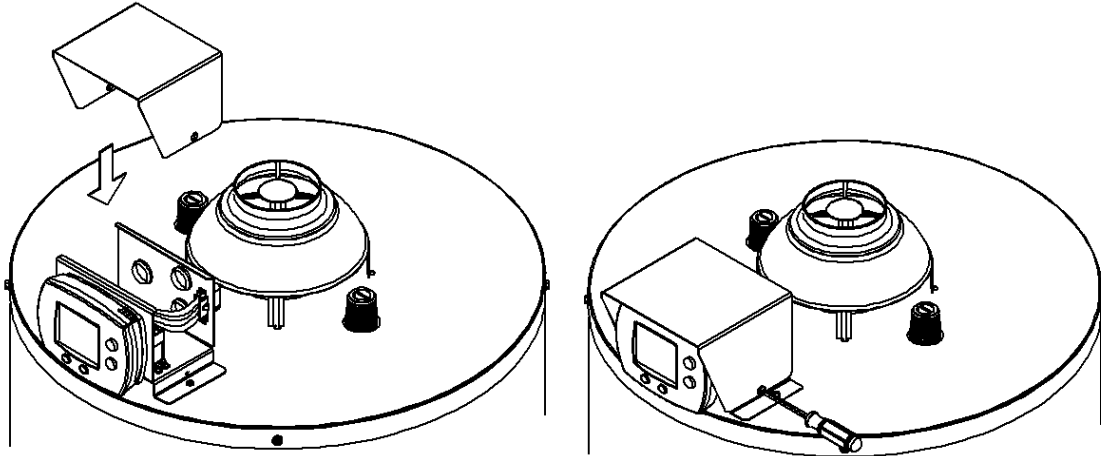

Figure 34
Step 6: Place the cover back on the Setback Control Junction Box Assembly and reinstall the Philips head screws previously removed, as shown in Figure 34.